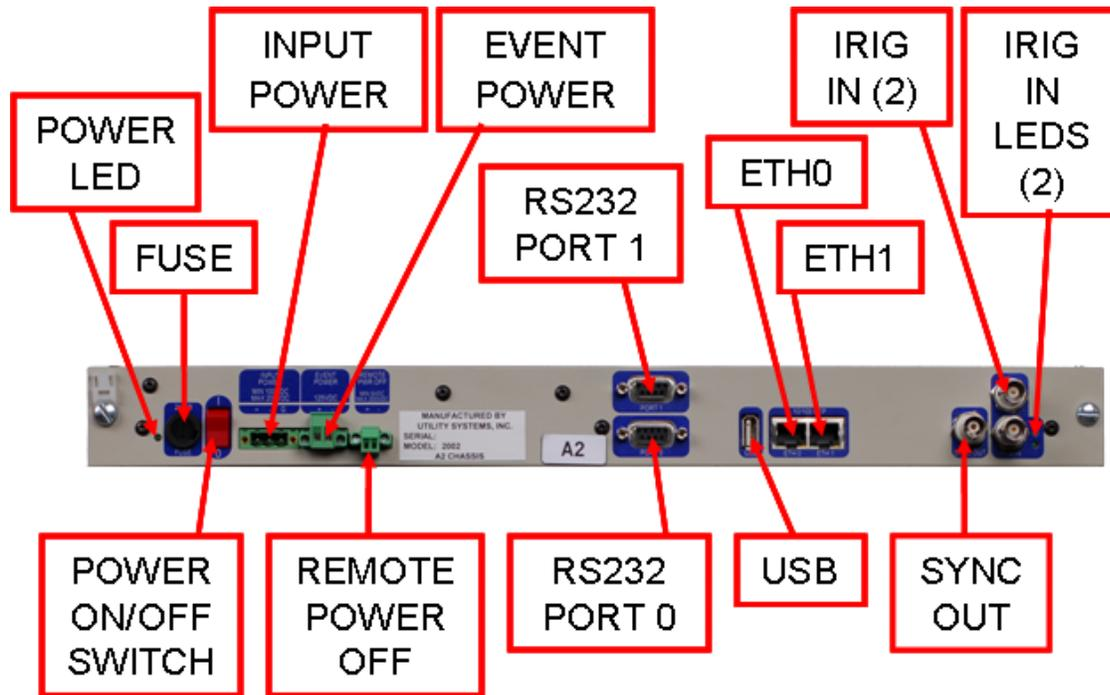

Figure 1-3 CPU 9000 Rear View
- If the blue IRIG IN LEDs on the rear of the M9000 module (Figure 1-3) are ON, the module is synchronized but to a tolerance greater than one microsecond
Caution: The power supply employs a robust heat sink assembly for cooling the main DC-to-DC converter and to conduct heat from the CPU board to the rear panel (Figure 1.3). Loosening any of the fasteners of this assembly can result in equipment damage and failure.